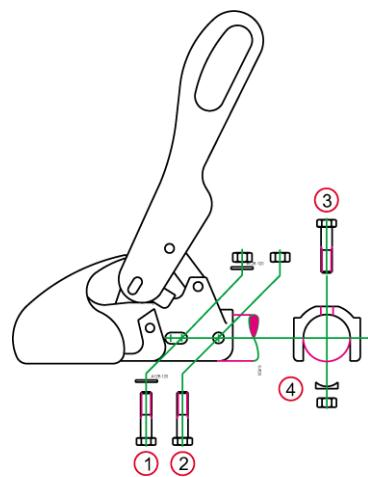

Fig. 3: mounting
**2.2** The **WS 3000 D-S ball coupling** is fitted using longitudinal (1)+(2) or cross (1)+(3) screw connections and the hole spacings of 40/50/54 mm. The coupling **WS 3000 H-S/L-S** can be fitted using the cross screw connection (1)+(3) and the hole spacing of 40mm. The fittings are part of the scope of supply and should be applied as follows: ( Fig. 3 )
**2.3** If the WS 3000 ball coupling is used as a replacement for another type of coupling, care must be taken in connection with the overrun equipment to ensure that the shock absorber is refitted properly and that any spacer tubes in the drawbar are reinstalled correctly. Please use the Ø 12 x 34 mm or Ø 12 x 49 mm bolts supplied for this purpose depending upon the drawbar diameter. Use bolts as a drift when dismantling the fixing screw (2) or (3) (Fig. 3) depending upon the method used to mount the shock absorber and leave them in the drawbar during assembly/dismantling of the ball coupling for centering the shock absorber. Remove the bolts again when pushing the new fixing screw through.